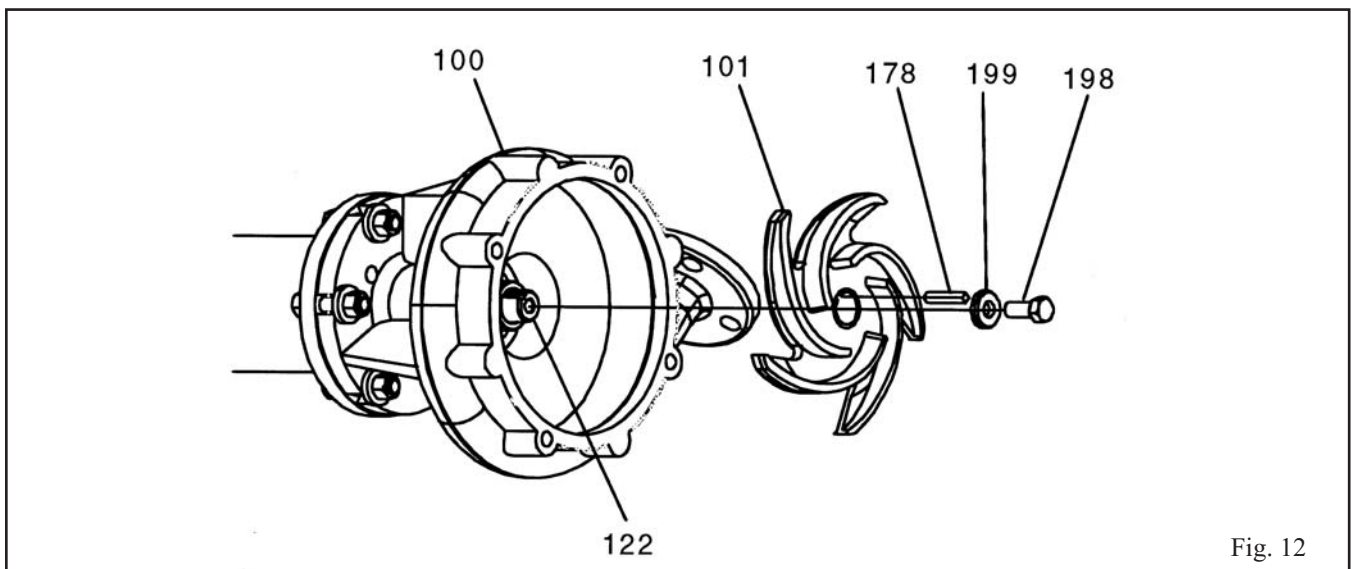

Fig. 12
17. Remove impeller screw (198) and impeller washer (199).
18. Remove impeller (101) from shaft (122) (Fig. 12). Save key (178) for reassembly unless it is damaged. Removal can best be accomplished in one of two ways.